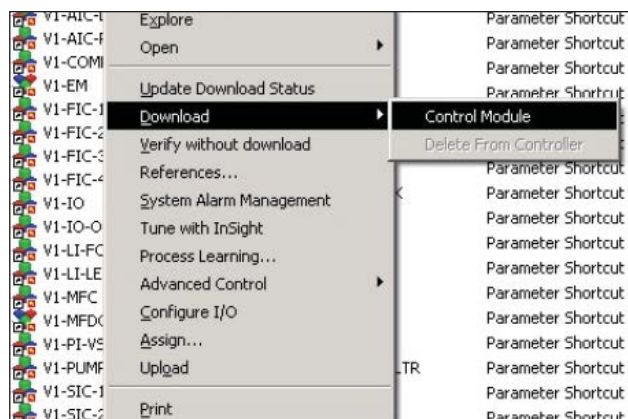

Figure F.6. Right-click module, select “Download,” then “Control Module.”
- Right-click the module. In the menu that appears, click **Download** and then, **Control Module** (Figure F.6).